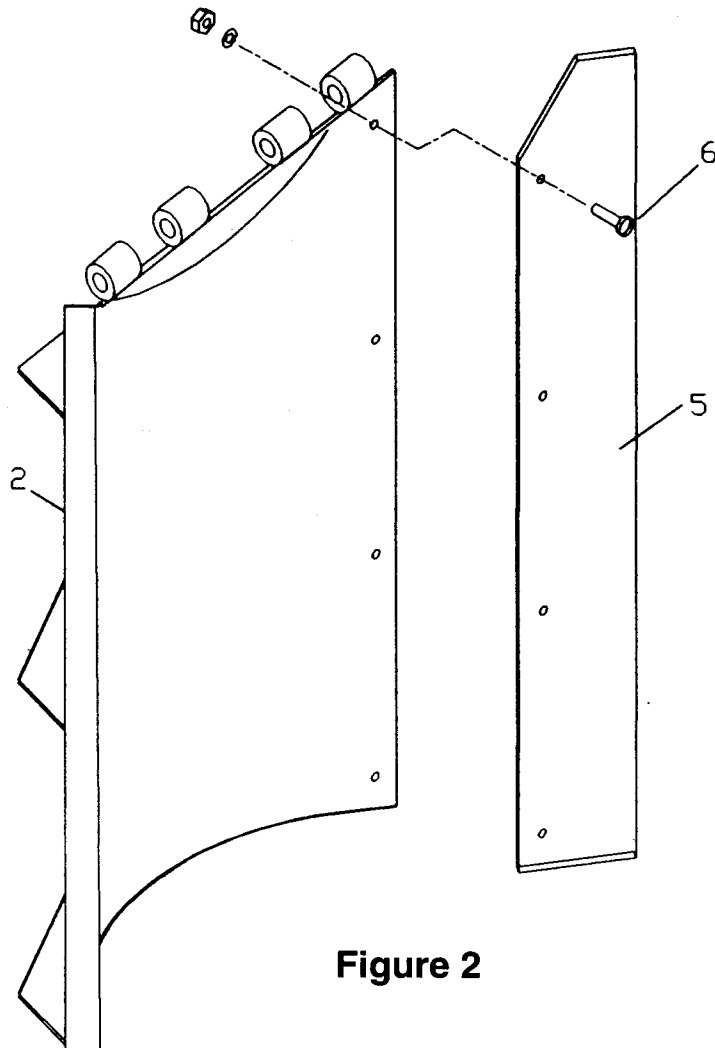

Figure 2
2. Stand each BLADE ASSEMBLY (Ref. 2, Fig. 2) on end, hinge side up. Attach the CUTTING EDGES (Ref. No. 5, Fig. 2) to the right and left hand BLADE ASSEMBLIES (Ref. No. 2, Fig. 2) using the GRADE 8 CARRIAGE BOLTS (Ref. No. 6, Fig. 2), 1/2" FLAT WASHERS and the GRADE C SELF LOCKING NUTS provided. Torque to 80 ft-lbs.